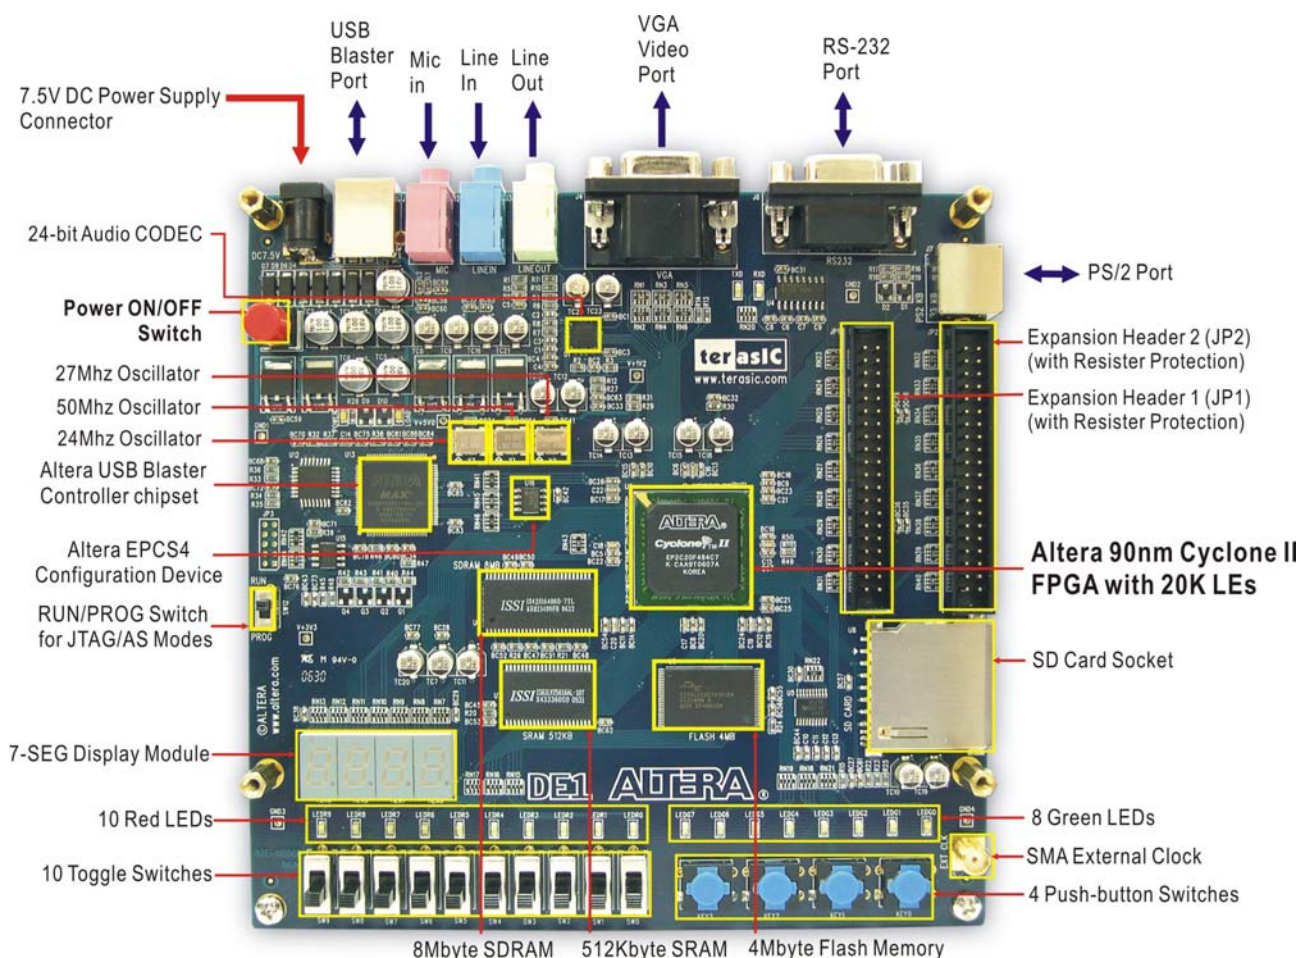

Figure 2.1. The DE1 board.
A photograph of the DE1 board is shown in Figure 2.1. It depicts the layout of the board and indicates the location of the connectors and key components.
- Connect the supplied USB cable to the USB Blaster port on the DE1 board (see Figure 2.1)